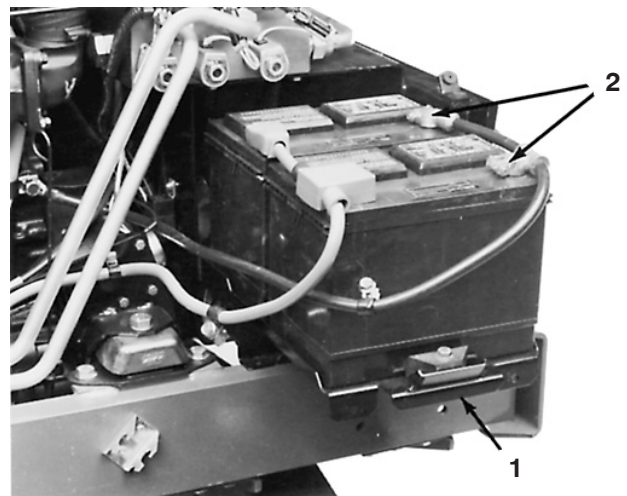

Figure 55
2. Remove capscrews securing battery tray to machine and slide tray out (Fig. 55).
4. Remove negative (–) battery cable connectors from batteries (Fig. 55). Connect a 3 to 4 amp. battery charger to the posts. Charge the batteries at a rate of 3 to 4 Amperes for 4 to 8 hours.